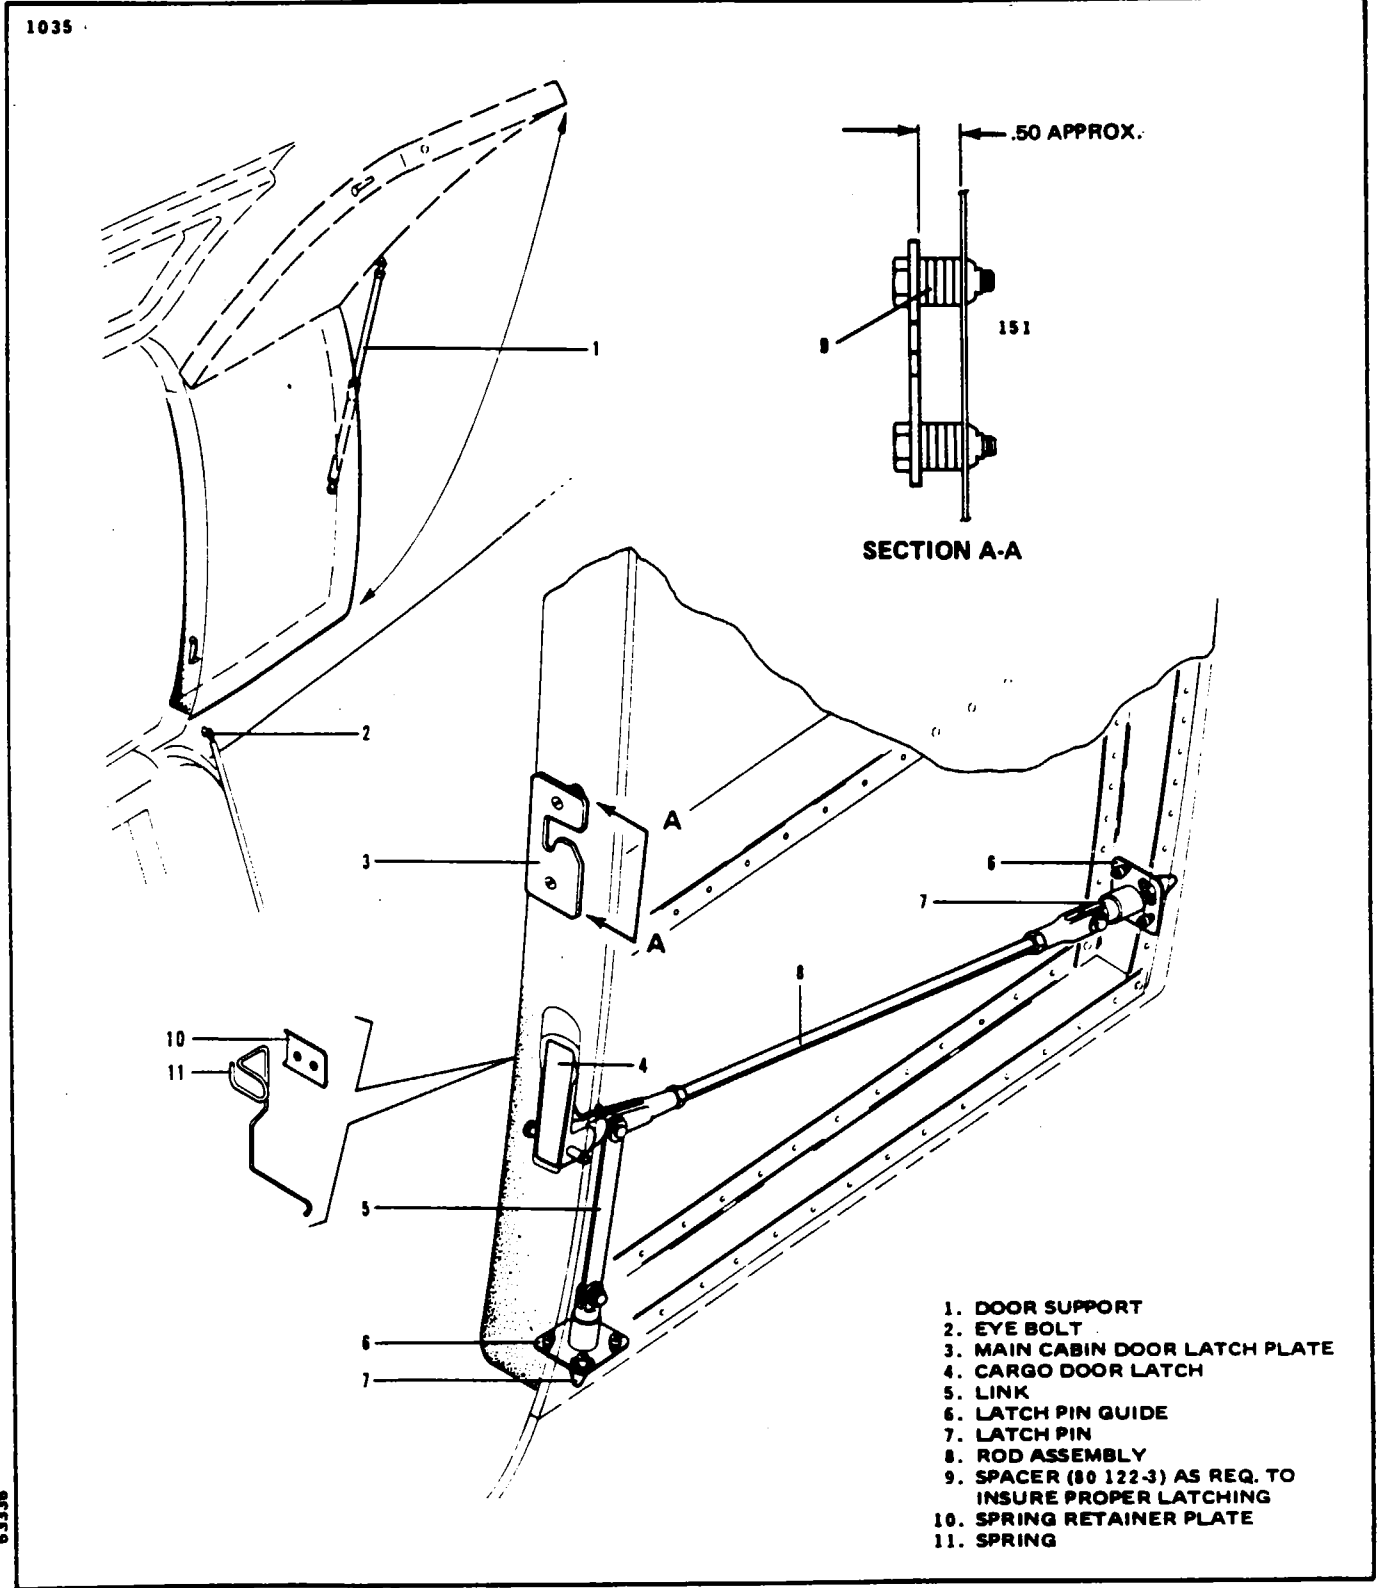

Figure 4-14. Cargo Door Latch Assembly
4-80. REMOVAL OF CARGO DOOR. (Refer to Figure 4-14.)
- a. Remove the lock pin holding the upper and lower cable assemblies together on the right side of the cabin entrance door. Position the clevis of the lower cable assembly onto the eye bolt located directly below the cargo door (B. Figure 4-14) and insert the lock pin.
4-81. INSTALLATION OF CARGO DOOR. (Refer to Figure 4-14.)
4-83. REMOVAL OF CARGO DOOR LATCH ASSEMBLY. (Refer to Figure 4-14.)
4-84. INSTALLATION AND ADJUSTMENT OF CARGO DOOR LATCH ASSEMBLY. (Refer to Figure 4-14.)